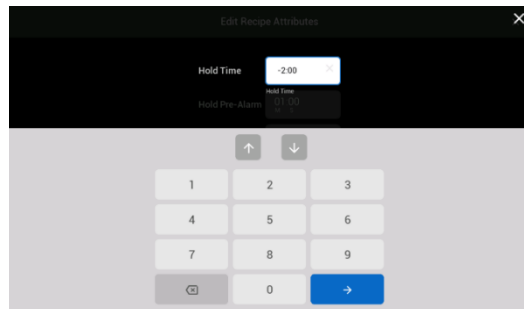

Figure 51 - Recipe Attributes Keypad
- Edit each attribute **Figure 51**, using the keypad and